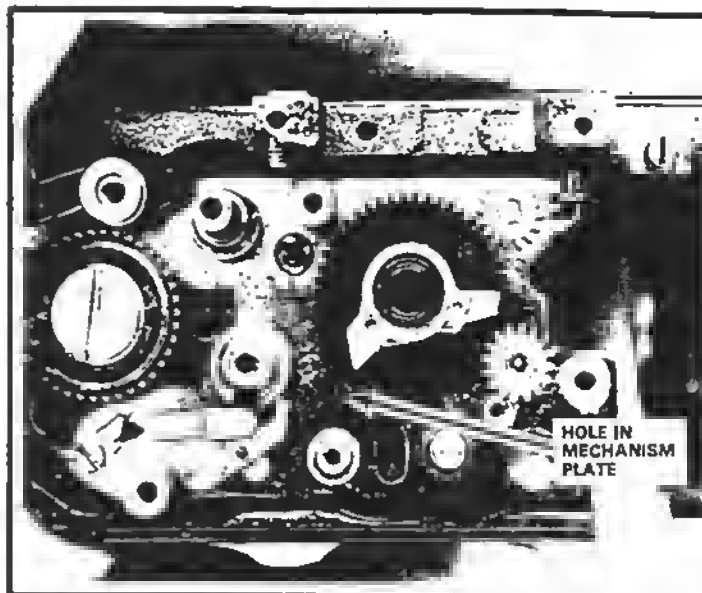
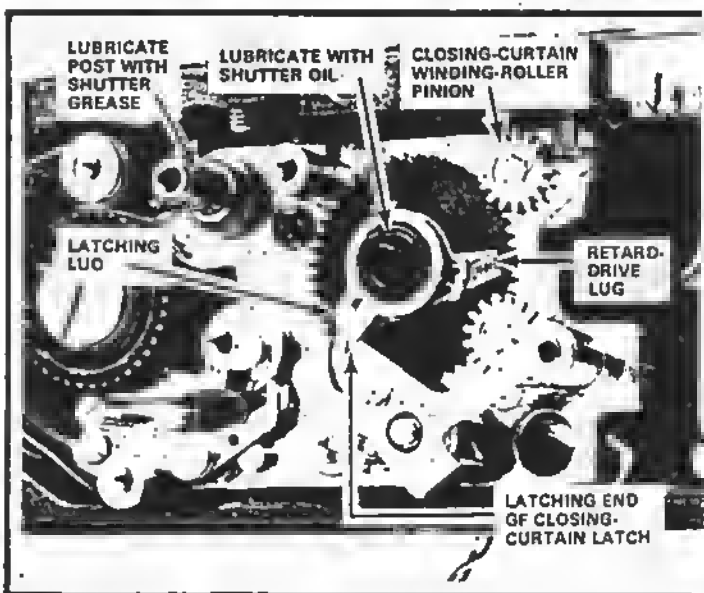
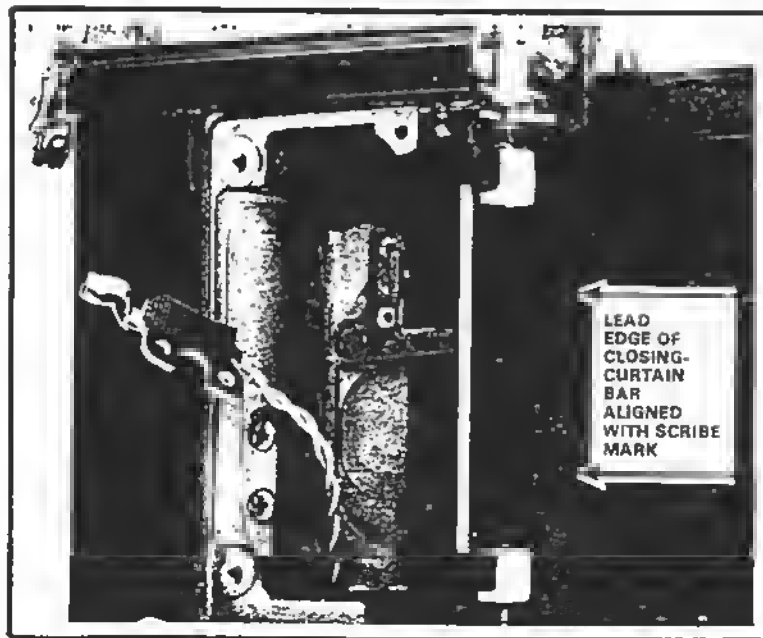

Figure 178
Figure 179
Figure 180
While holding the closing-curtain winding roller, seat the closing-curtain wind gear as shown in Fig. 178. Notice the position of the latching lug in Fig. 178 -- it points to the small hole in the mechanism plate. Now, swing the closing-curtain latch into engagement with the latching lug as shown in Fig. 179.
The lead edge of the closing-curtain bar should still be aligned with your scribe mark, Fig. 180. What if it's not? Then, you have to change the timing between the closing-curtain wind gear and the closing-curtain winding-roller pinion, Fig. 179.
**LUBRICATION:** Lubricate the inside bearing surface of the closing-curtain wind gear with shutter oil. Just place a tiny drop of oil between the bearing surfaces, Fig. 179. The oil will then work its way around the inner surface of the closing-curtain wind gear as you operate the shutter.
Lubricate the latching lug and the retard-drive lug with shutter grease. Wipe a very light coat of grease on the latching surface of the latching lug, Fig. 179. Also, lightly grease the sloped side of the retard-drive lug as well as the side that comes against the upper retard-rod lever. Remember, the sloped side passes under the upper retard-rod lever during the cocking cycle (if you've set the shutter to a retard speed).